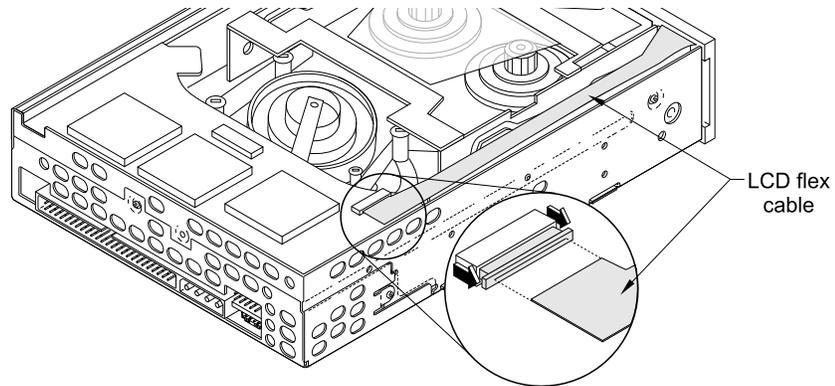

Figure 8 Loosening the tab on the LCD flex cable connector
3. If your faceplate has an LCD, pull the tab on the LCD flex cable connector toward the left side panel (see Figure 8).